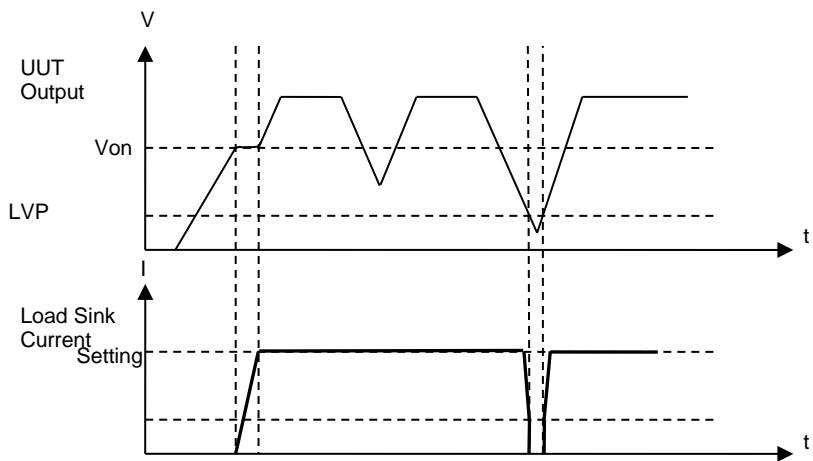

Figure 3-26 When Von Point is not set to 0V with Protection
- (3) When the Von Point is not set to 0V and protection is selected for LVP during “LOAD ON”, turn off the SW after it is turned off a period of time and then turn the SW off again. It will not perform current loading if the power is lower than the default protection voltage as shown in Figure 3-26. The loading state restores when the SW is off and the power is larger than the default voltage.